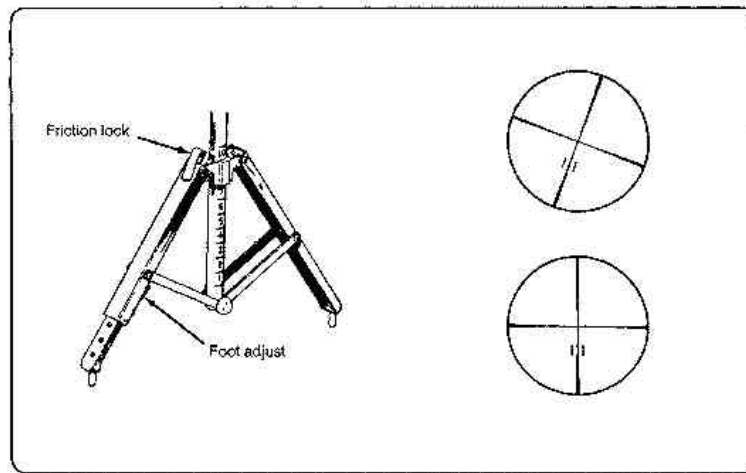

Figure 4-6. Leveling the sight picture.
f. **Adjusting for Height and a Level Sight Picture.** Look through the sight to see if the sight picture is level. Adjust the bipod friction lock and the foot adjust to obtain a level sight picture (Figure 4-6).